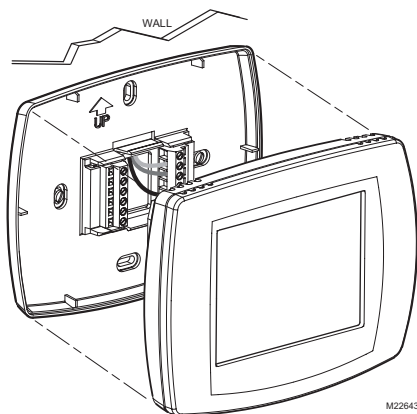

Fig. 9. Mounting comfort control on wallplate.
2. Push the comfort control straight onto the wallplate. See Fig. 9.